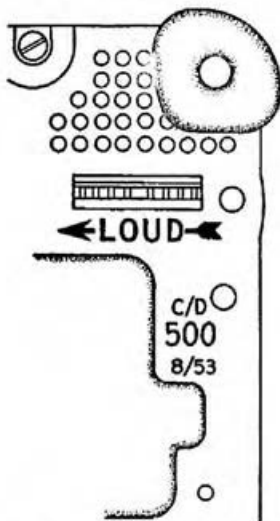

Fig. 2—Base of 500 Series Sets
2.08 **Manual and Dial Set Coding:** The type of telephone set and date of assembly is stamped with aluminum lacquer on the base of the set approximately as shown in Fig. 2.